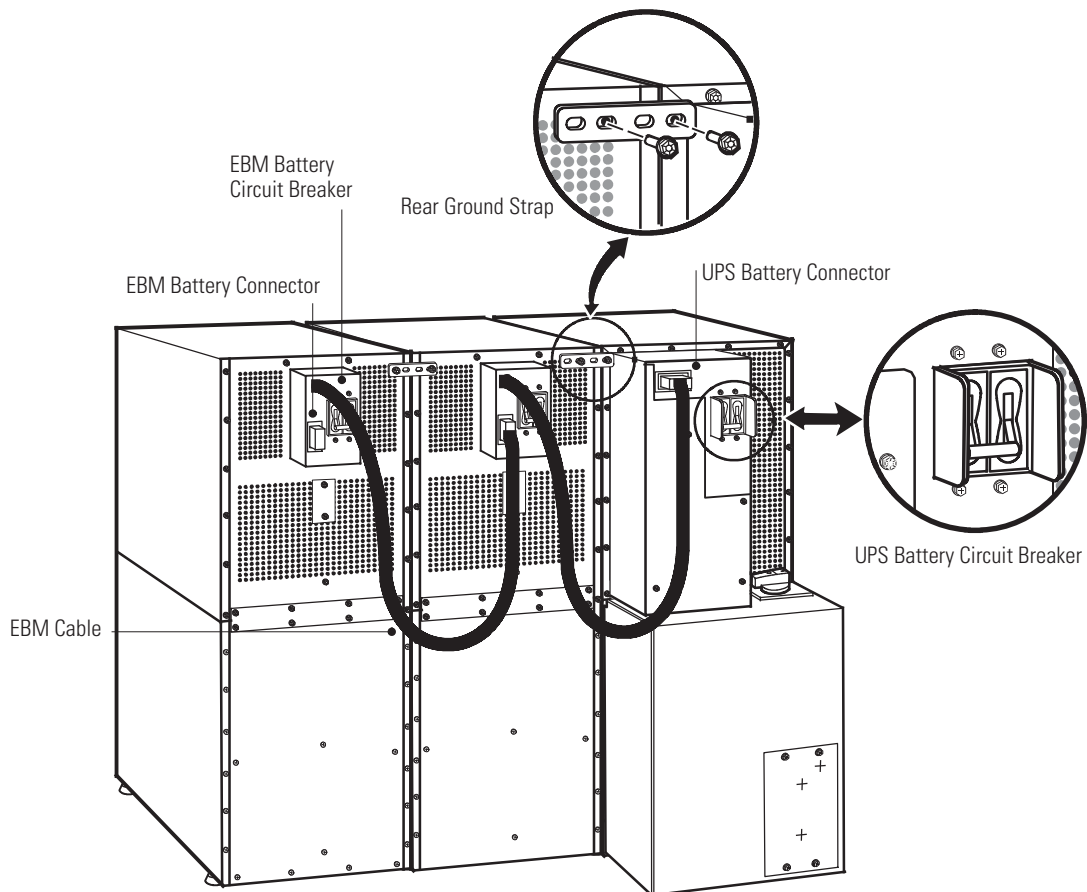

Figure 44. Typical EBM Installation (2-High Cabinets Shown)
2. Verify that all battery circuit breakers are in the OFF position (see Figure 44).
4. Install one ground strap between the UPS and EBM rear panels as shown in Figure 44.
5. If additional EBMs are installed, attach another ground strap between the first and second EBM as shown in Figure 44. Repeat for each additional EBM.